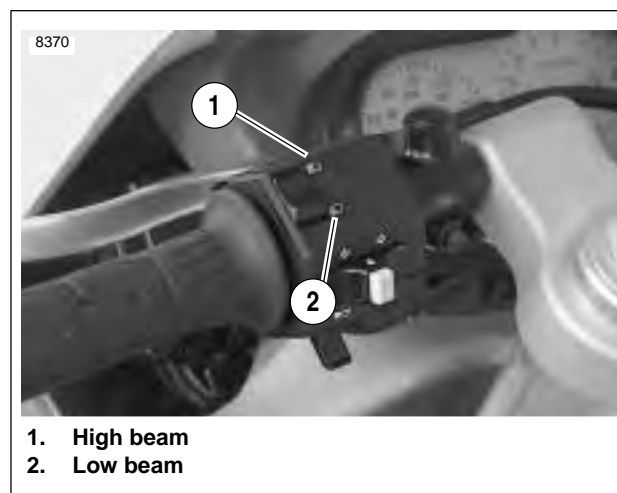

Figure 1-58. Headlamp Switch
- a. See Figure 1-58. Turn ignition switch to IGN. Set handlebar headlamp switch to LOW beam position.
- a. See Figure 1-58. Set handlebar headlamp switch to HIGH beam position.